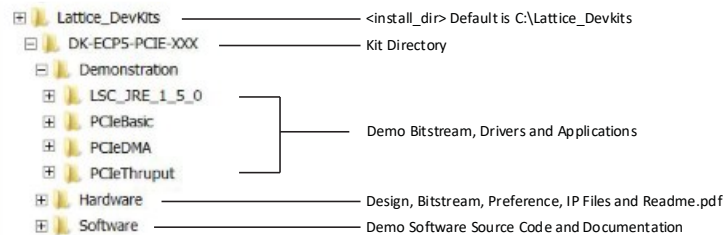

Figure 4.1. Installed ECP5 Versa Development Board Directory Structure (Windows)
7. Click **Finish** to complete the kit installation. Figure 4.1 shows the directory structure of the installed evaluation board.
Figure 4.1 shows the default installation path for Windows. Please note that whenever the kit directory or <kit_dir> is referred to in this document, it refers to the <install_dir>\DK-ECP5-PCIE-XXX\ file path, where the default <install_dir> path is **C:\Lattice_Devkits** and XXX is the kit revision number.